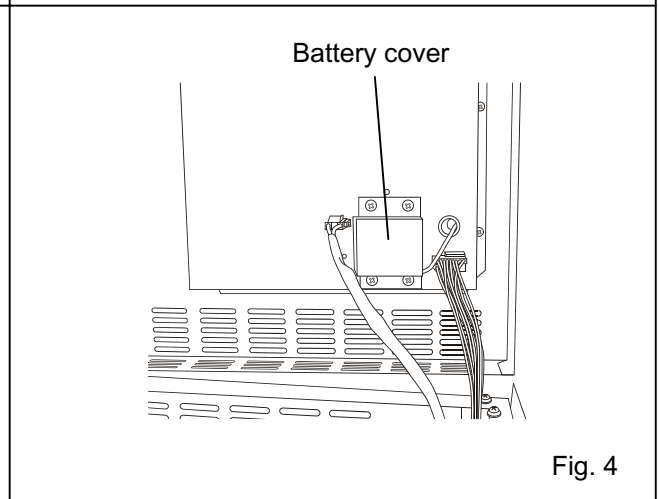

Fig. 4
4. Remove 4 screws fixing the battery cover. (Fig. 4)